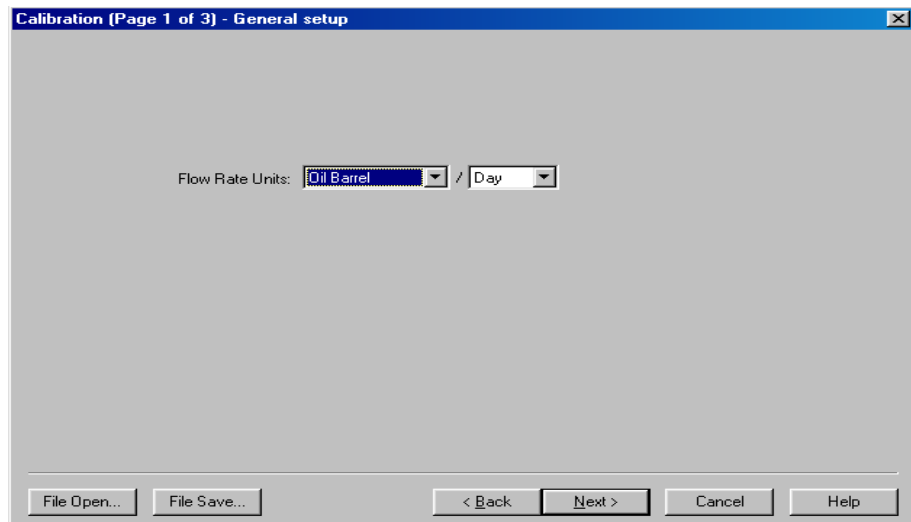

Figure 4.10
1. Press the **Calibration** button on UltraLink’s main **Data Display**. At Page 1 of 3, press the Next> button. See **Figure 4.10**.